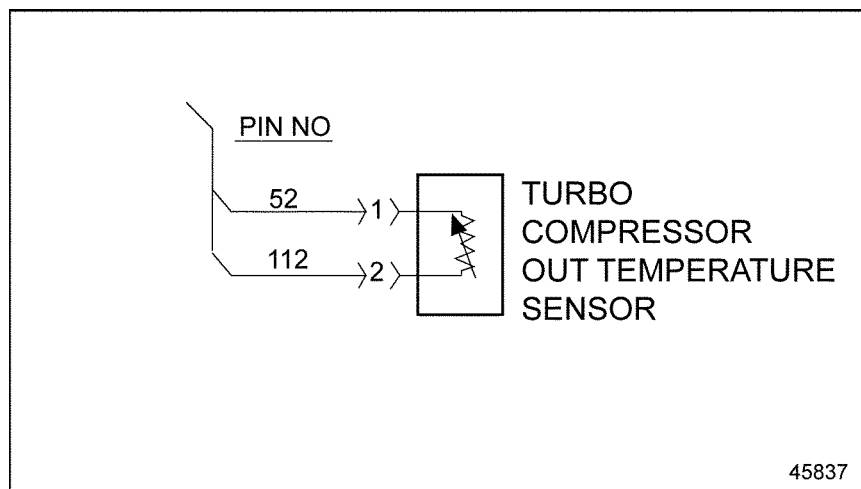

Figure 38-1 Turbo Compressor Outlet Temperature Sensor
- [a] If the voltage is between 2.75 and 3.25 volts, repair the open circuit between pin 1 of the TCO Sensor harness connector and pin 52 of the 120-pin MCM connector. See Figure 38-1. Refer to section 38.1.1.1.